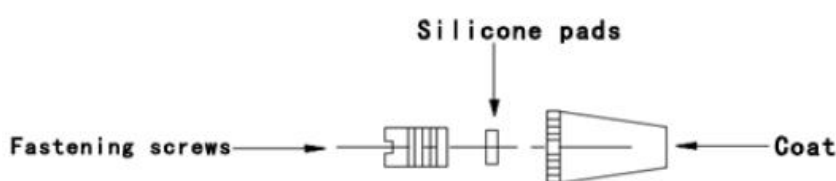

Figure 4.4
2. Load the milky white silicone pad into the plug and screw it in evenly with the fastening stud (see Fig. 4.4).